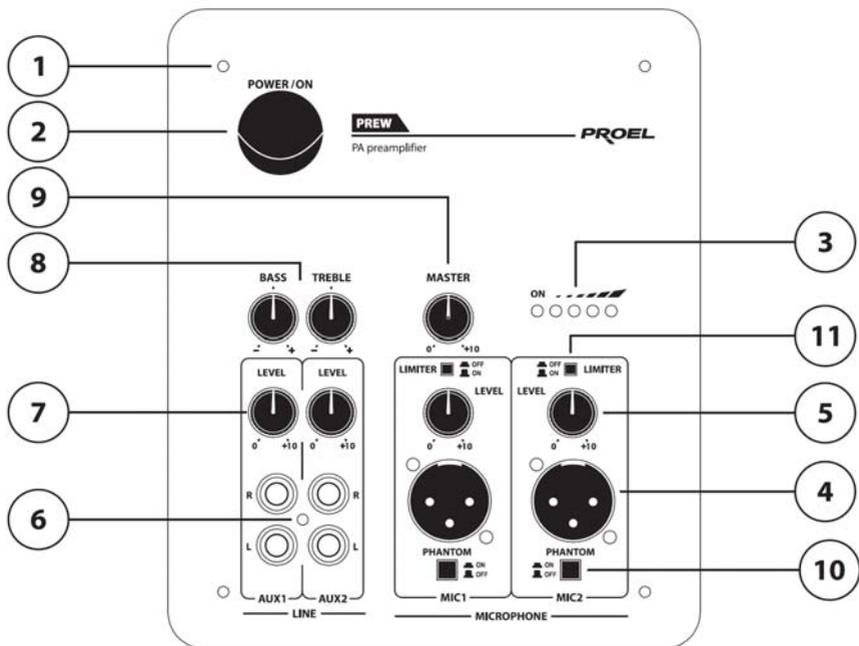

fig.1
- The input MICRO 1 and MICRO 2 (fig1 ref 4) are balanced and can be used for both connections: for dynamic microphones with low impedance ($250-600\Omega$) and for condenser microphone with Phantom power supply. Inputs suitable for 3 poles "XLR" connectors.
- AUX INPUT (fig.1 ref.6). Such inputs can receive high level quality external sound source. The inputs R and L can receive the right channel (R) and left channel (L) throughout RCA connectors.